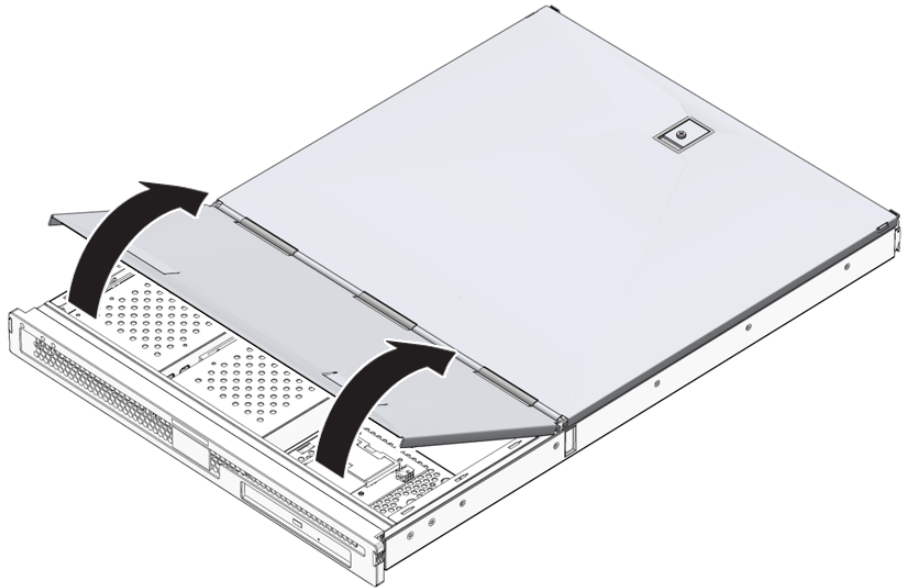

FIGURE 1-3 Removing the Front Section of the Cover
4. Lift off the front section of the cover (FIGURE 1-3).